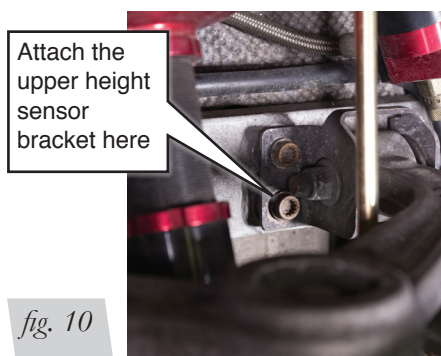

fig. 10
- Remove the lower of the two factory upper control arm mount bolts on the inside rear of the arm and reattach with the upper bracket in place (Figs. 10 & 11). The large hole fits around the top bolt. See chart for torque specifications.